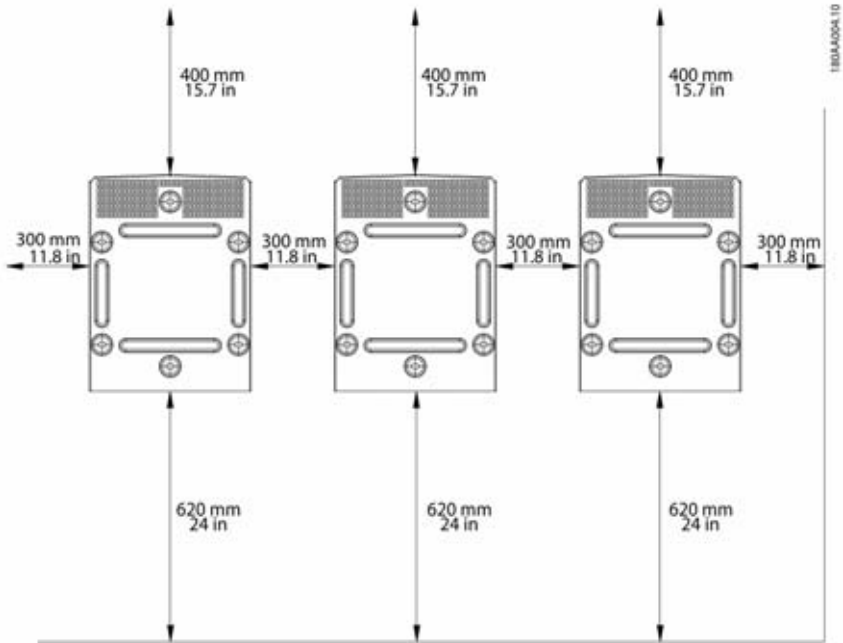

Figure 2.8 Safety clearances
- Observe safe clearances when installing one more inverters, to ensure adequate airflow. Clearances are specified in figure 2.8 and on the mounting plate label.